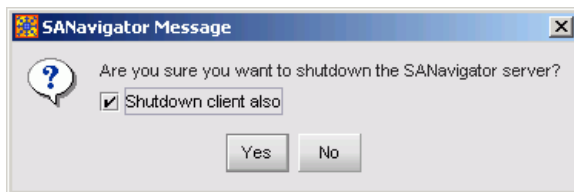

Figure 2-107 SANavigator or EFCM Message Dialog Box
3. If the Hardware View is open, close the view and return to the SAN management application (SANavigator 4.0 or EFCM 8.0) by clicking close (X) at the upper right corner of the window.
4. Close the SAN management application by selecting *Shutdown* from the *SAN* menu. A *SANavigator* or *EFCM Message* dialog box displays (Figure 2-107).